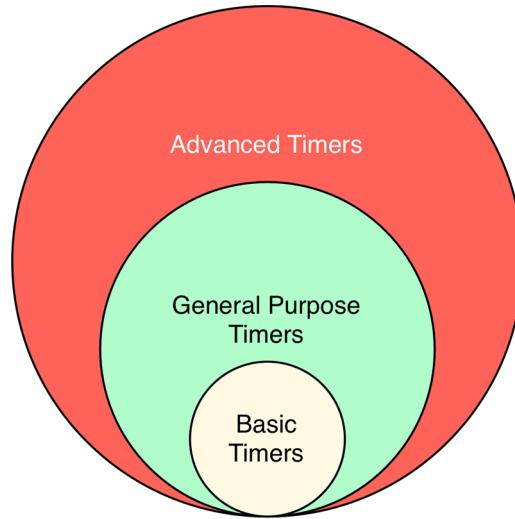

Figure 11.1: The relation between the three major categories of timers
*Basic timers* TIM6, TIM7 and TIM189 are the simplest timers available in the STM32 portfolio. Even if they are not provided by all STM32 MCUs, it is important to underline that STM32 timers are designed so that more advanced timers implement the same features (in the same way) of less powerful ones, as shown in Figure 11.1. This means that it is perfectly possible to use a *general purpose timer* in the same way of a *basic timer*. The CubeHAL also reflects this hardware implementation: the base operations on all timers are performed by using the `HAL_TIM_Base_XXX` functions.